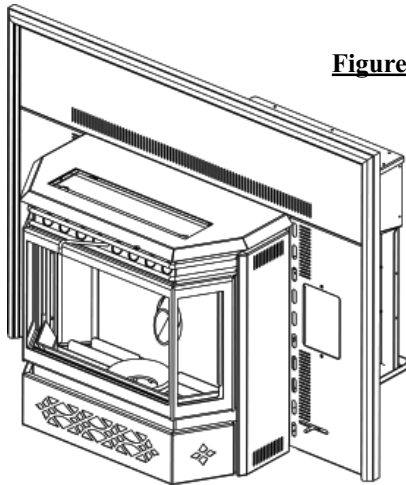

Figure 35
1. Open the viewing door. See **Figure 35 and 36**
1. Open side door, release the latch and pivot the viewing door wide open. See **Figure 35 and 36**.